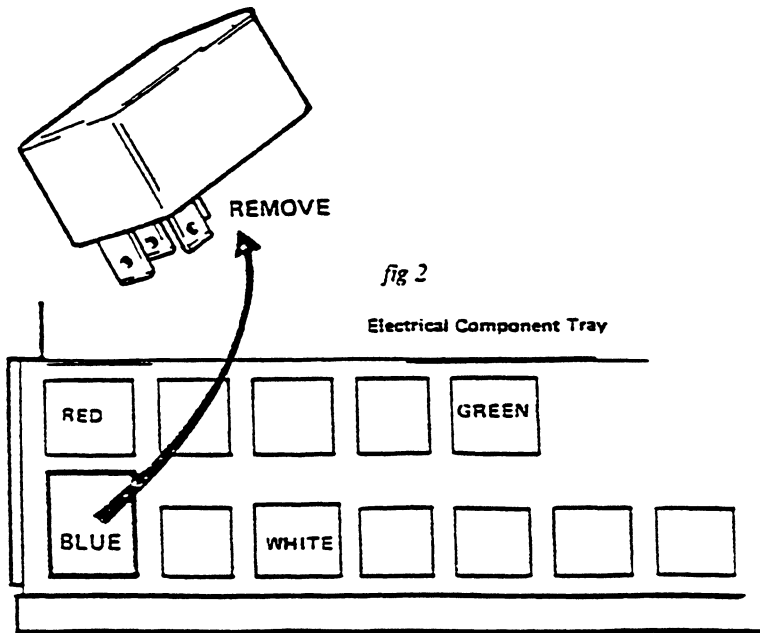

fig 2
- 2) Locate and remove the blue fan fail module as indicated in Figure 2.